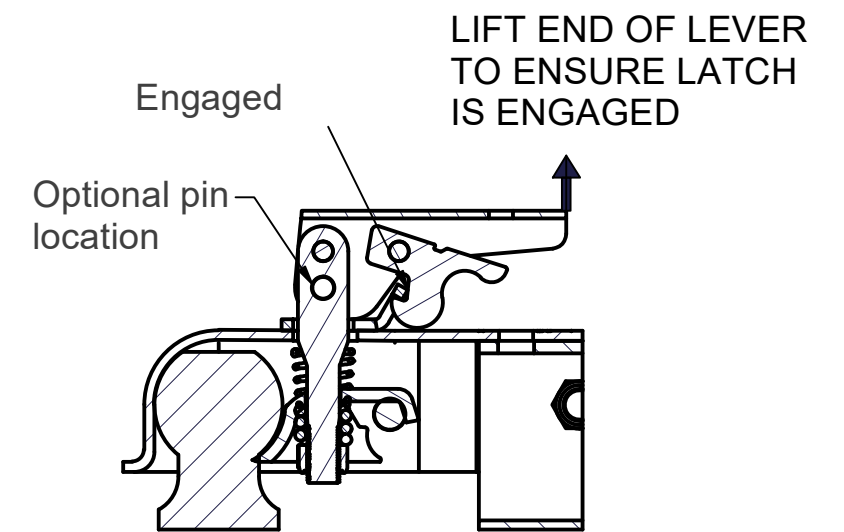

FIGURE 8:
6. Check that the latch is engaged by lifting up on the back of the locking lever (See Figure 8). If the ball is not seated with the lever in the closed position and latch engaged, DO NOT TOW. Repeat the above steps.
7. Optional: A pin or pad-lock may be inserted in the locking lever hole for extra security (See Figure 8).